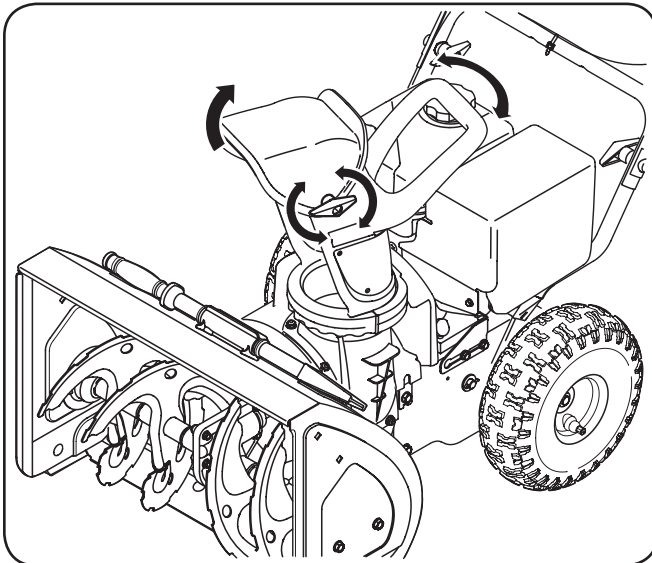

Figure 3-7
2. Tighten the wing knob on the upper chute making sure the carriage bolt is correctly positioned. Refer to Figure 3-7.